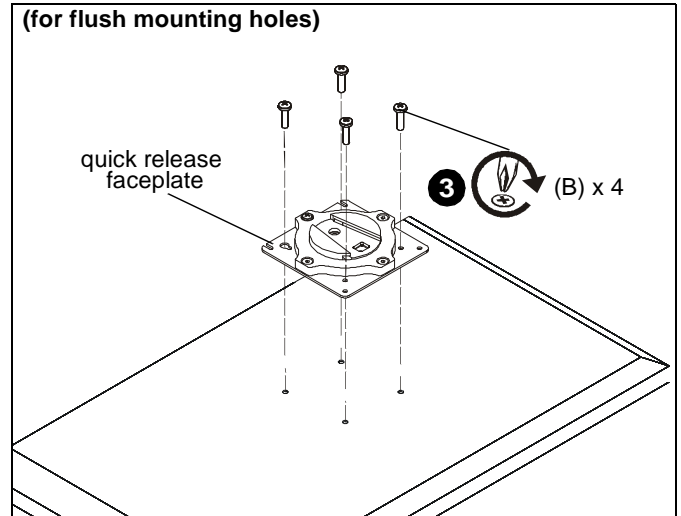

Figure 4
- Using Phillips screwdriver, carefully install four M4x14mm screws (B) through corresponding holes on faceplate and into the mounting holes on the display. (See Figure 4)